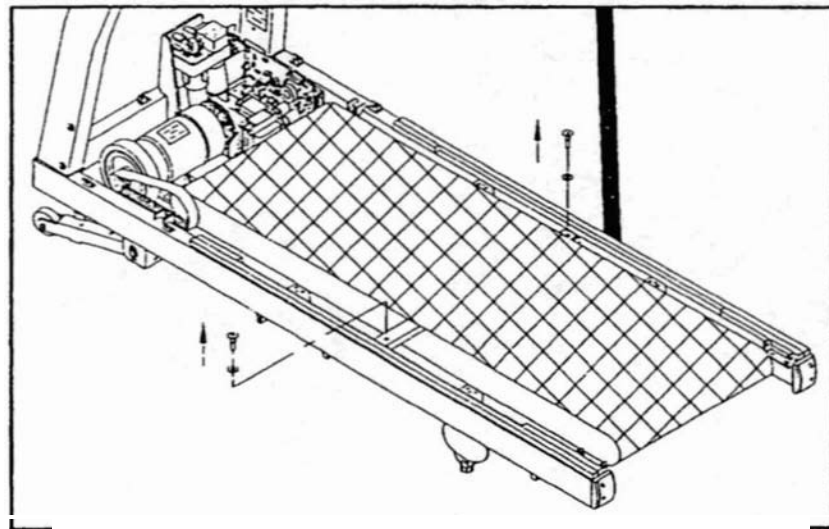

Fig.10
11. Unscrew and remove the deck support. (see Fig.10 - 11)